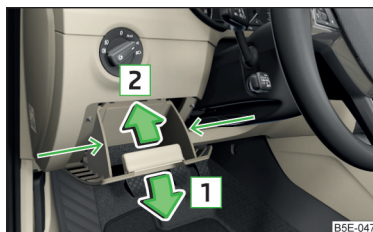

Fig. 231
- Grab hold of the storage compartment in the area of the arrows » Fig. 231.